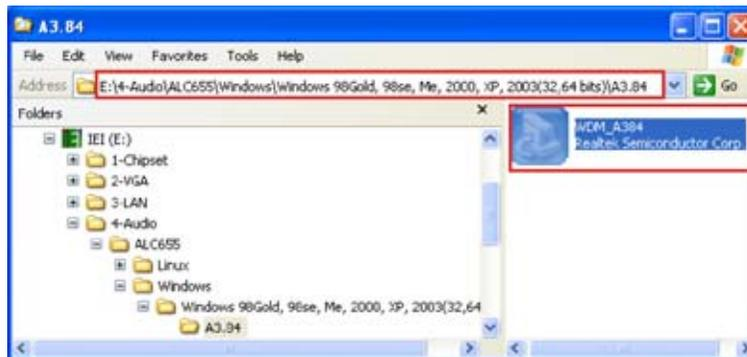

Figure 6-21: AC'97 Audio Driver Options
Step 48: Browse to “E:\4-Audio\ALC655\Windows\Windows 98Gold, 98se, Me, 2000, XP, 2003(32,64 bits)\A3.84” Figure 6-21
Step 49: Double-click the installation file in Figure 6-21.